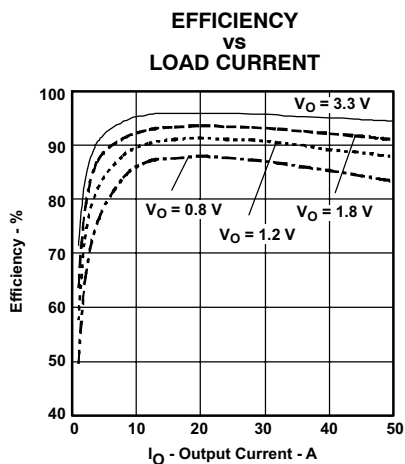
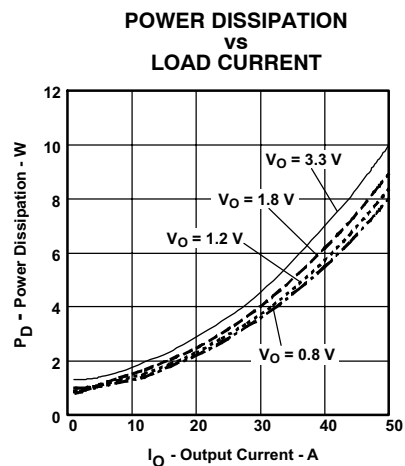

Figure 5.
Figure 6.
- (2) The temperature derating curves represent the conditions at which internal components are at or below the manufacturer's maximum operating temperatures. Derating limits apply to modules soldered directly to a 4-mm x 4-mm, double-sided PCB with 1-oz. copper. For surface mount packages (AS and AZ suffix), multiple vias (plated through holes) are required to add thermal paths around the power pins. Please refer to the mechanical specification for more information. Applies to Figure 3 and Figure 6.
- (3) The electrical characteristic data has been developed from actual products tested at 25°C. This data is considered typical for the converter. Applies to Figure 5, and Figure 6.